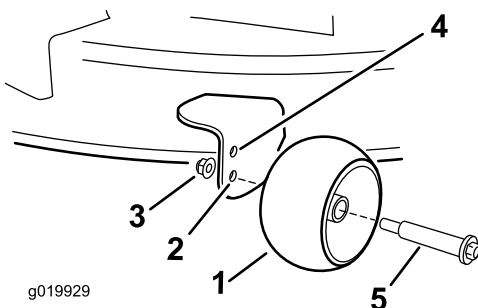

Figure 19
- Upper hole—use this position with the mower deck in the 63mm (2-1/2 inch) and below height-of-cut positions (Figure 19).
- Lower hole—use this position with the mower deck in the 76mm (3 inch) and above height-of-cut positions (Figure 19).